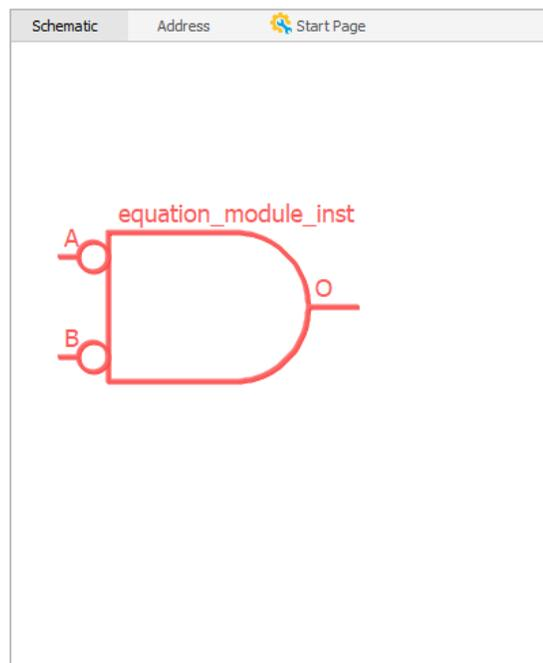

Figure 2.26. Schematic View Shows an Equation Module
3. Click **OK**. The schematic block for the equation module in red appears in the Schematic view (Figure 2.26).